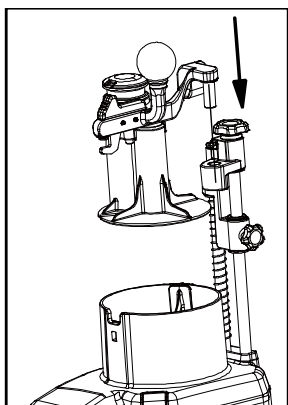

Fig.9
**4.4.3.8** Model GEA4K, lift the arm up and down to check whether the machine is in good condition. as shown in Figure 9.
**4.4.3.9** Model GEA4, insert the arm into shaft, as shown in Figure 9.